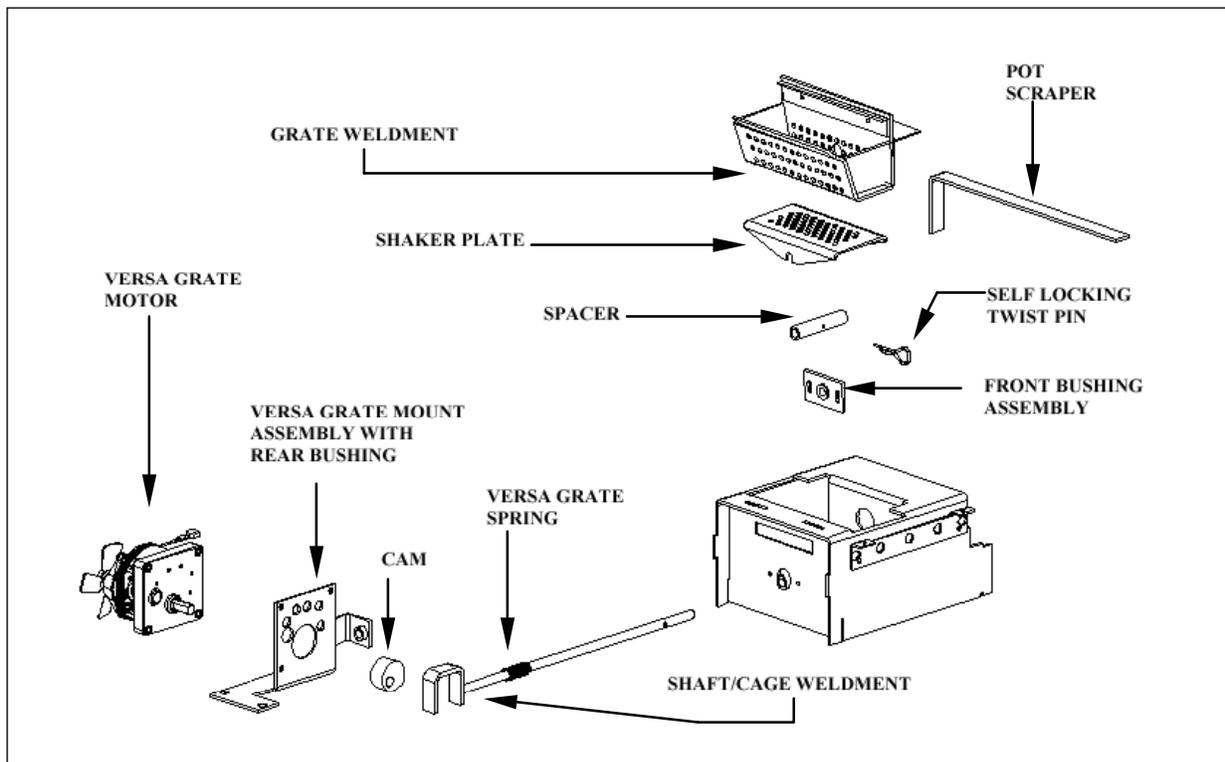
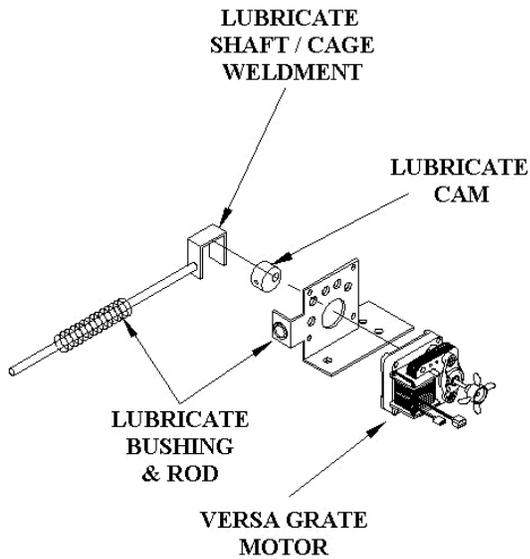

Figure 5
Figure 11
All models are equipped with the Versa Grate System (see Figure 5 below). The benefit of this feature is that the stove can operate for longer periods of time, with most fuels, without the grate requiring cleaning. If the flame becomes dark orange, is accompanied by black smoke or burns with a lazy motion - it's time to clean the grate.
**The Versa Grate System** – First, let's become familiar with the burn system in a St. Croix Pellet stove. The system in the York Insert is a little different than in the Freestanding models (See Fig 5 below). There is a 2-piece burnpot. The top Part is called the **"Grate Weldment"**. This sits on top of the **"Shaker Plate"**. This in turn sits on top of the **"Shaft/Cage Weldment"** and is held in place with the **"Spacer"** & **"Self Locking Twist pin"**. The Shaft/Cage weldment is moved towards the front of the stove and then towards the back of the stove by the **"Cam"** that is connected to the **"Versa Grate Motor"**. This motion is constant while the stove is in operation. The only parts that may need to be removed for cleaning purposes during the Daily or Periodic Maintenance are the **"Grate weldment"** and the **"Shaker Plate"**. The holes in the burnpot will get plugged with use and should be checked regularly.
1. Check Grate Weldment and Shaker Plate (See figure 5) to determine if holes are plugged. Clean as needed. With proper precautions the grate may be partially cleaned while the stove is hot. Follow these steps:
- Use the “scraper” provided to move the burning pellets to one side of the grate, leaving the ash in the bottom of the grate. (See Fig 5 & 6)
3. Clean holes in the Grate Weldment and Shaker Plate at least weekly. Remove the burn grate and use a small metal object to clean out plugged holes (See figure 5).
7. With the Room Fan removed you have easy access to the **Versa Grate system**. This should also be lubricated on a yearly basis with some High Temp Anti-Seize (can be purchased at a local car parts store). There are several areas to lubricate (see figure 11 below). They are: the Cam, Rear Bushing & Rod of the Shaft/Cage Weldment and the Front Bushing (for location of the front bushing see figure 5 on page 9, it is located in the front of the stove, below the Grate Weldment and Shaker Plate in the Firebox).